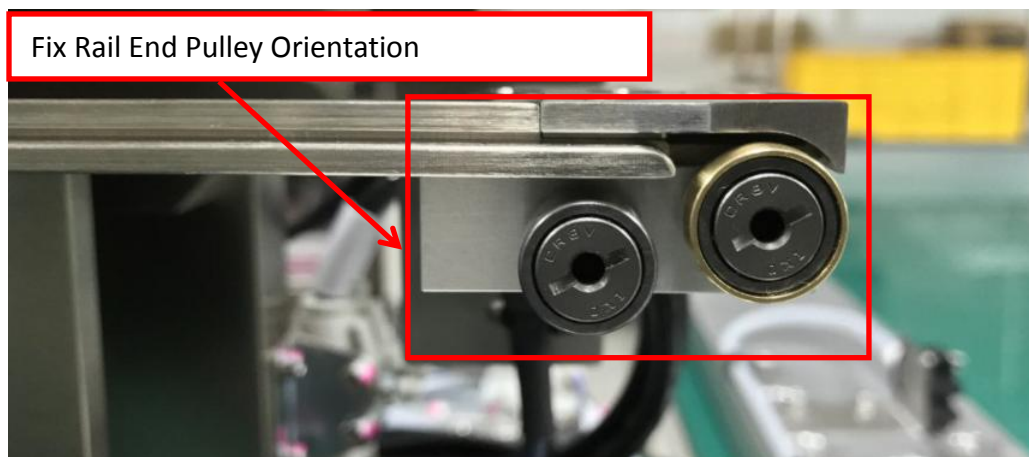
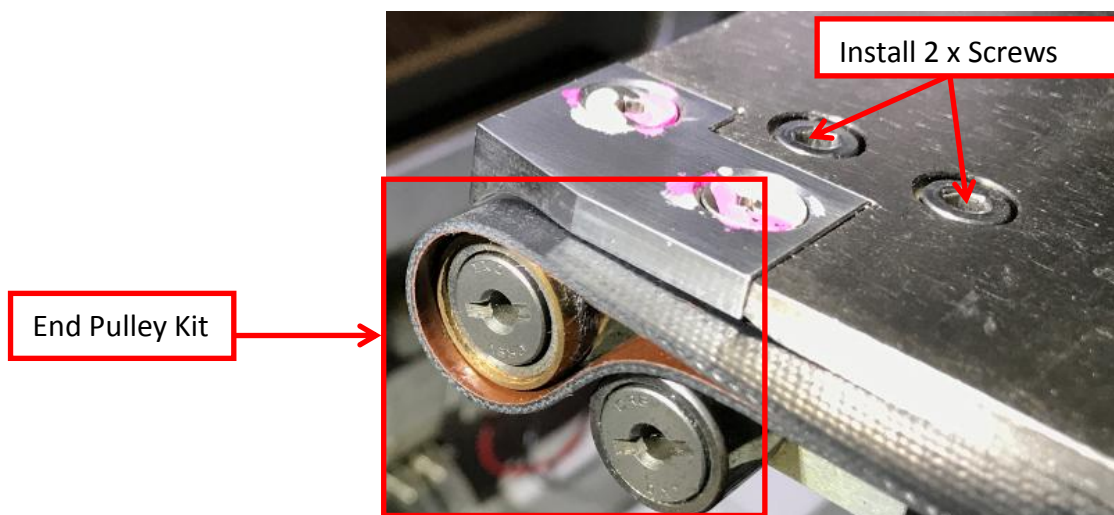

Figure 26 Fix Rail End Pulley Orientation
Figure 27 Fix Rail End Pulley Assembly
2. Install Fix Rail End Pulley Kit into Fix Rail as shown in Figure 26. Tighten 2 x Screws at Fix Rail End Conveyor Pulley as Figure 27